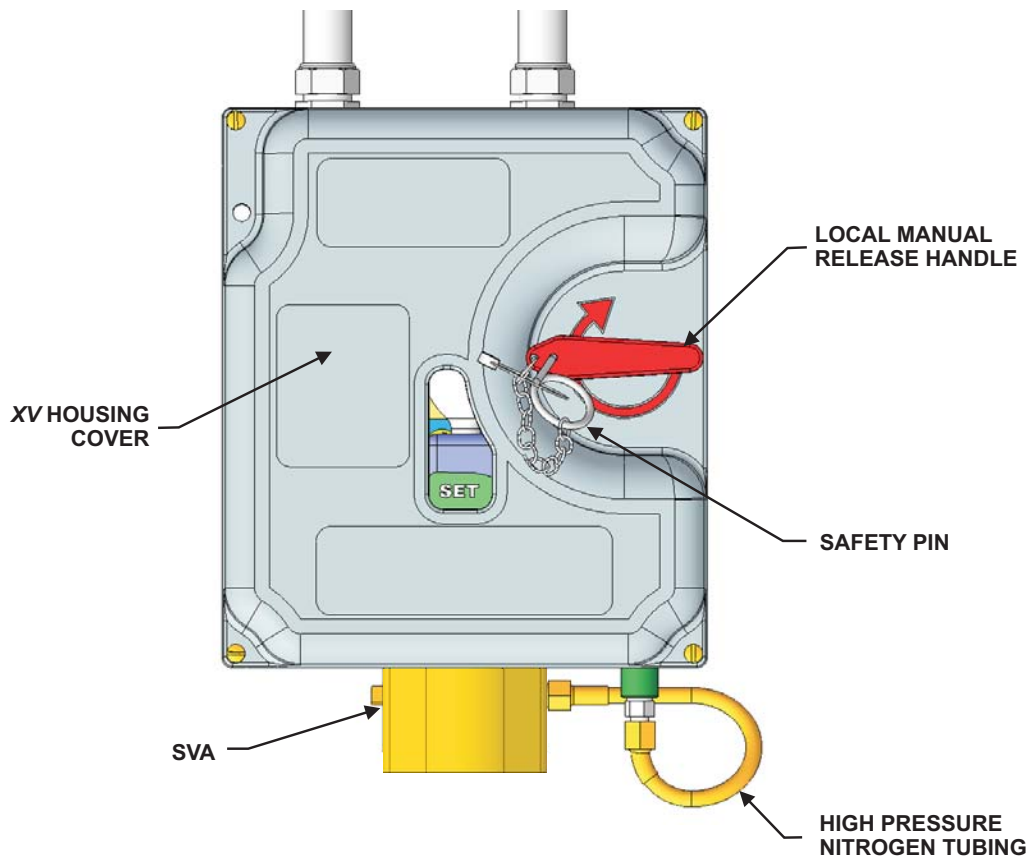

Figure 4-83. XV Control System, Cover Attached
2. Locate the cover of the XV Control System. Ensure that the local manual handle is set and that the Safety Pin is inserted (see Figure 4-83). The handle should be locked in the set position. If the handle can turn, adjust until the pin can be inserted all the way through the handle into the body of the cover.